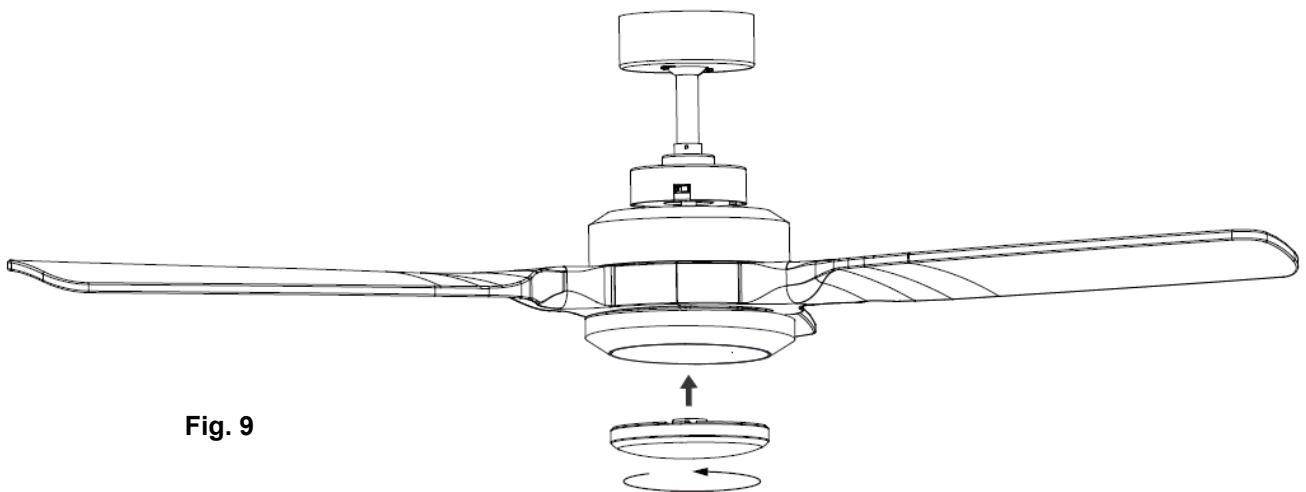

Fig. 9
- Install the globe (not included) into the lamp holder. (Fig. 9)